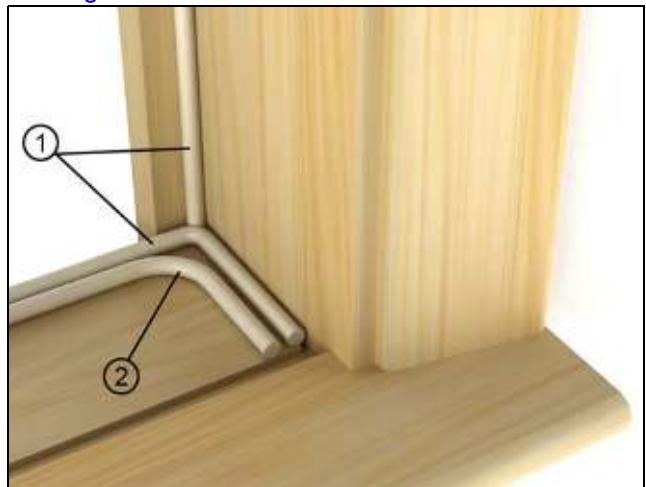

Figure 2
4. Apply a 1/4" (6) bead of sealant at both sill to jamb joints and on the back of the interior sash stops or moulding. Apply a secondary continuous bead of sealant on sill. Proceed to Installing the Insert Window. See Figure 2.